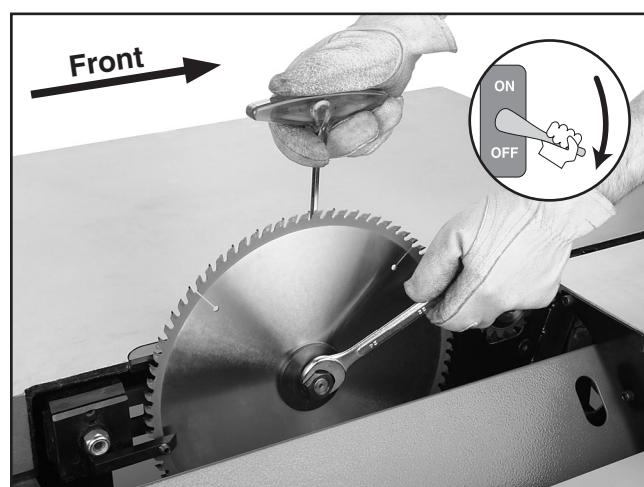

Figure 25. Installing the main blade.
6. Slide the blade onto the arbor with the teeth facing the front of the saw (see **Figure 25**).
7. Re-install the arbor flange and the arbor nut then tighten them against the blade as shown in **Figure 25**.